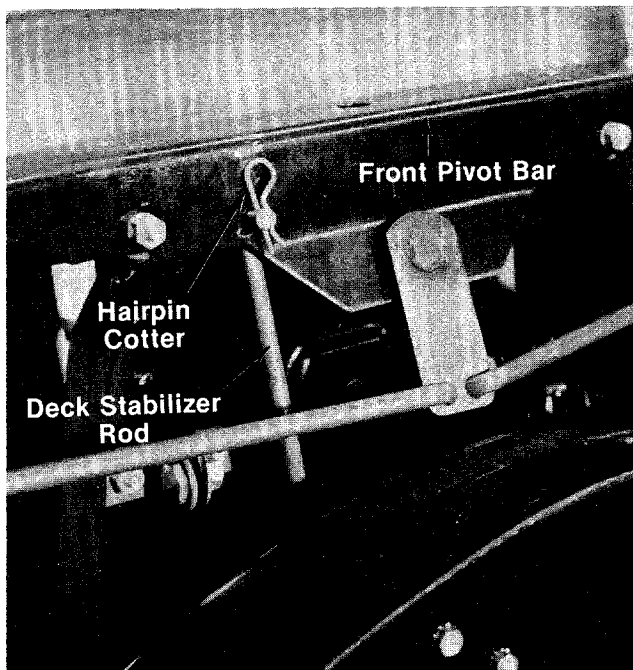

FIGURE 32.
1. Remove hairpin cotter from deck stabilizer rod at the front pivot bar. See figure 32.